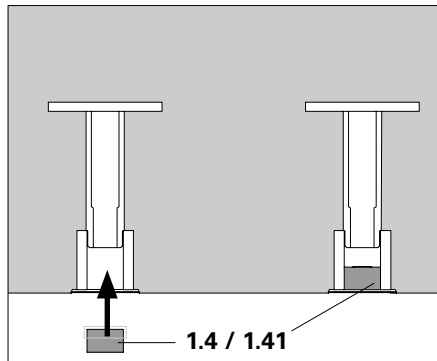

Fig. A5.10
5. Remove glue residue with a spatula. (Fig. A5.10 + A5.11)